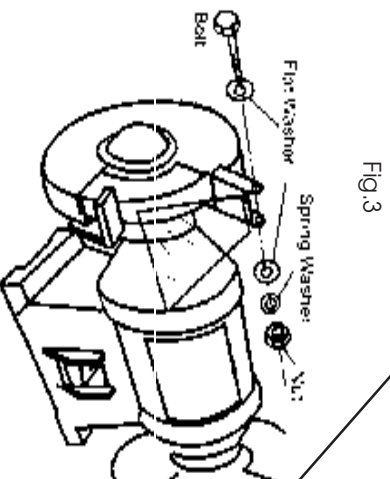

Fig. 3
3. Assemble the Eye Shields on to the Spark Arrester brackets using the nuts, bolts and washers supplied, in the manner shown in Fig. 3. The angle for the Eye Shields can be adjusted to suit the operator.